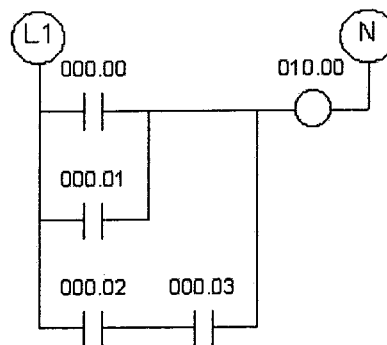

Figure Q5[d]
- [d] Simplify the logic function shown in ladder diagram in Figure Q5[d] using marker or internal relay.